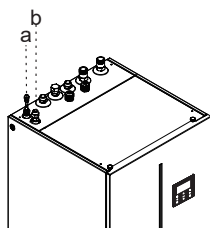

Fig.5-2
- If the indoor unit is matched with outdoor unit (4/6kW), the transfer 9.52-6.35 (See the table in Page 8) should be mounted on the refrigerant liquid connection of indoor unit (Refer to Fig.5-2); The transfer is not used in other types of outdoor unit (8/10/12/14/16kW).